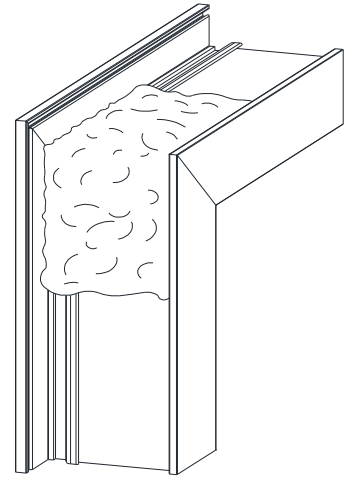

Figure 7:
- Seal frame and vent joints completely with compatible sealant. Apply a heavy bead of sealant to the interior side where the frame jamb and sill join. Sealant must cover the entire joint (from the flange to the inside leg) and extend 1 1/2" up the jamb and along the sill (Figure 7).